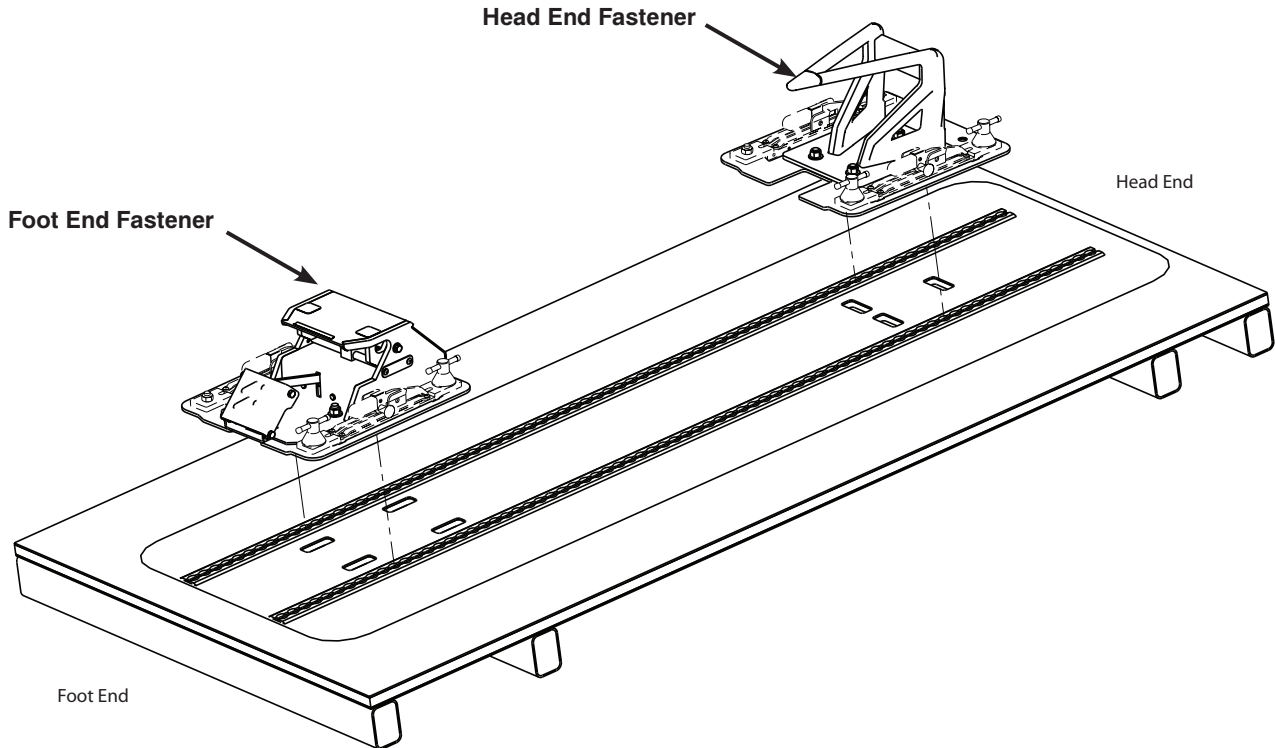

Figure 10: Head End and Foot End Fastener - Floor Track Installation
- Repeat steps 2 - 4 to install the head end fastener on the floor track (Figure 10).